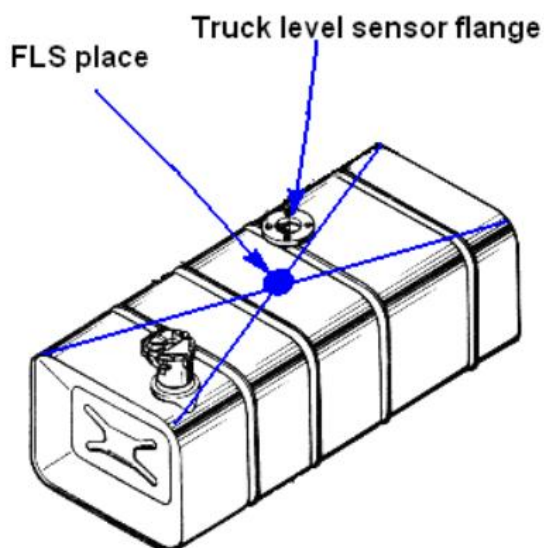

Fig. 3. Recommended installation scheme
1. For better measurement the best place for FLS installation is geometric center of the tank (see Fig. 3). Truck level sensor is usually mounted not in the center.